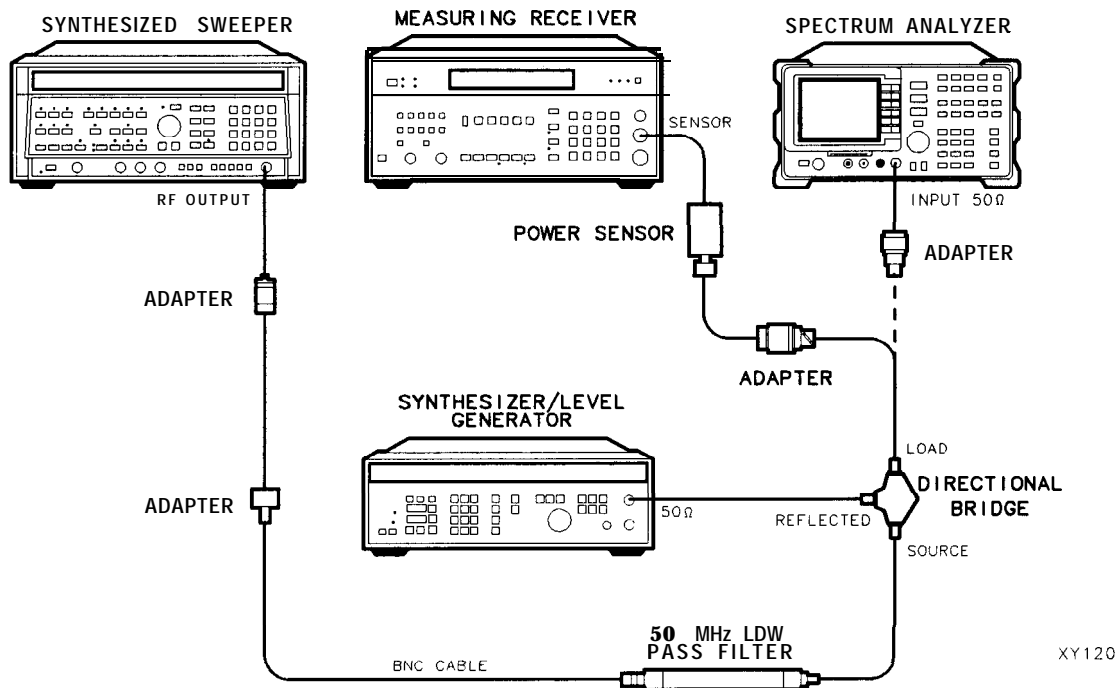

Figure 1-19. Third Order Intermodulation Distortion Test Setup
2. Connect the equipment as shown in Figure 1-19 with the output of the directional bridge connected to the power sensor.